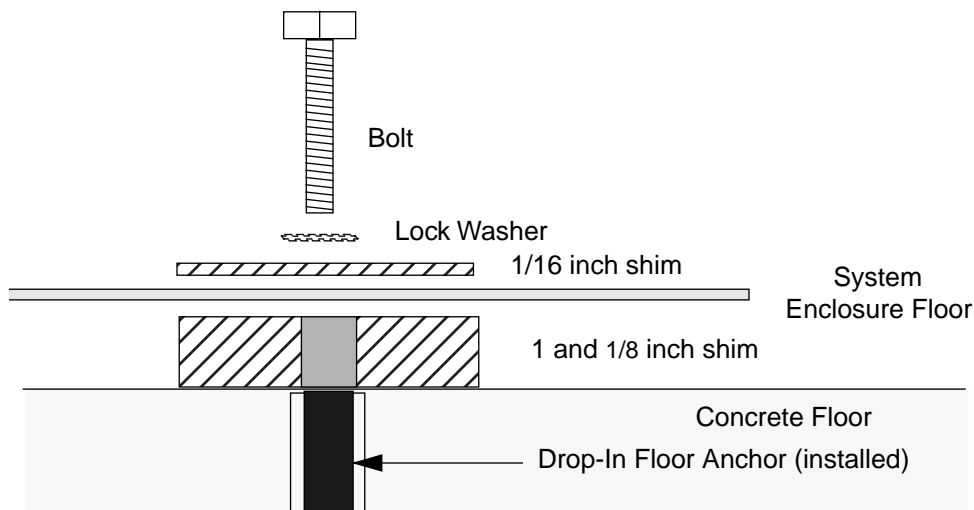

Figure 14: Installing The Earthquake Zone 2 Hardware
4. Holding the bolts in place, tighten the nuts from underneath the system as shown in Figure 14. Use the same “a little at a time” method for tightening the nuts as described in Step 3.